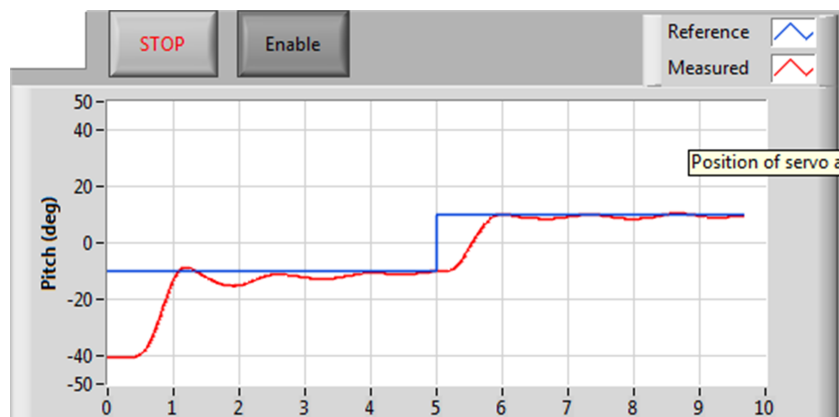

Figure 5.13: Closed-loop LQR response under pitch reference step
12. Set the *PITCH Command Amplitude* to 10 degrees and see the response in Figure 5.13, which depicts the typical measured response under a step pitch angle. The measured response is the red line and the reference is the blue line.